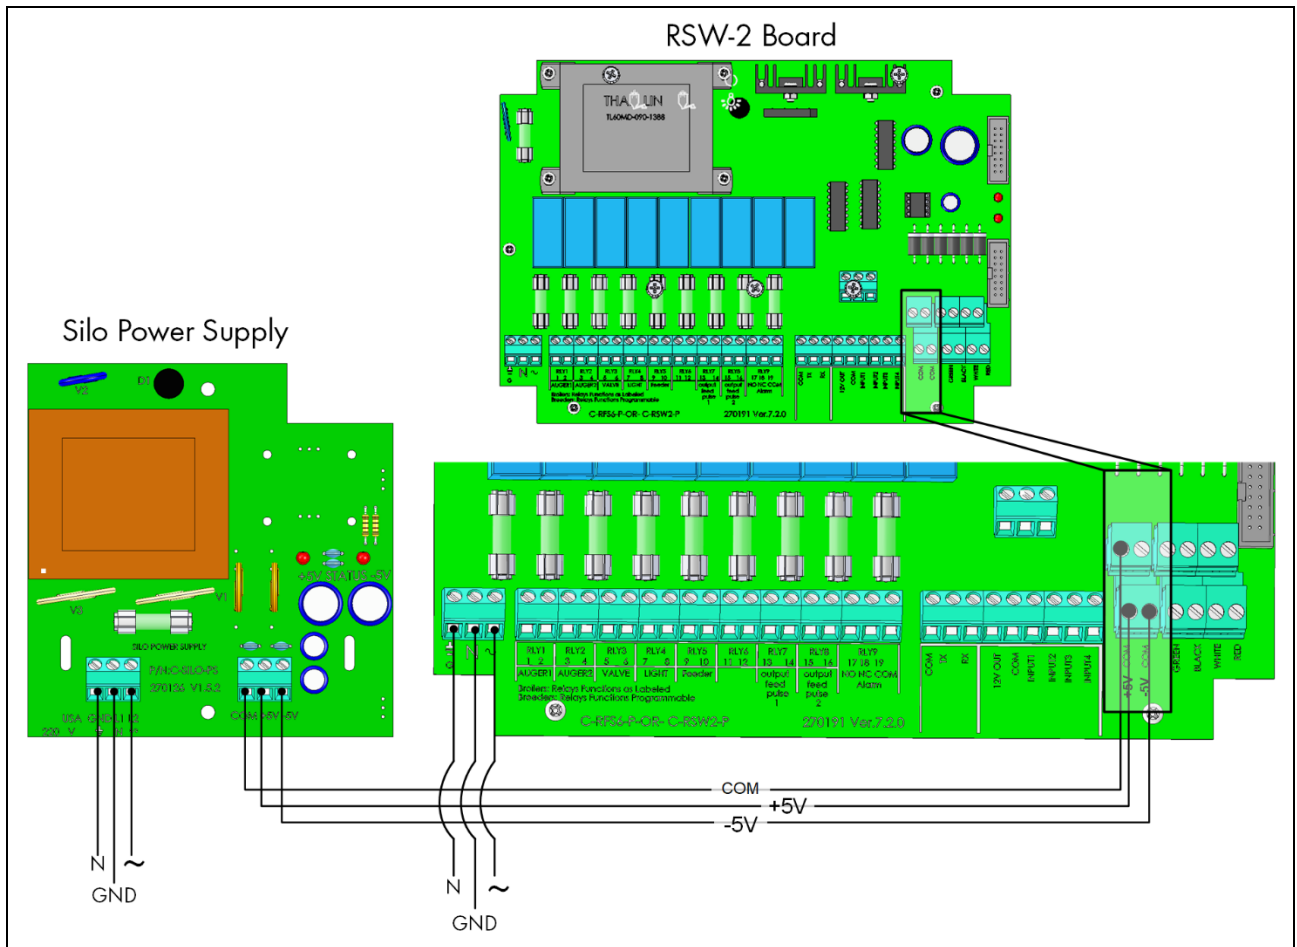

Figure 13: External Power Supply Wiring Diagram
- When seven (7) or eight (8) RSLC units are connected an RSW-2/RJB, an **additional** external power source (SILO-PS) is required (Figure 13).